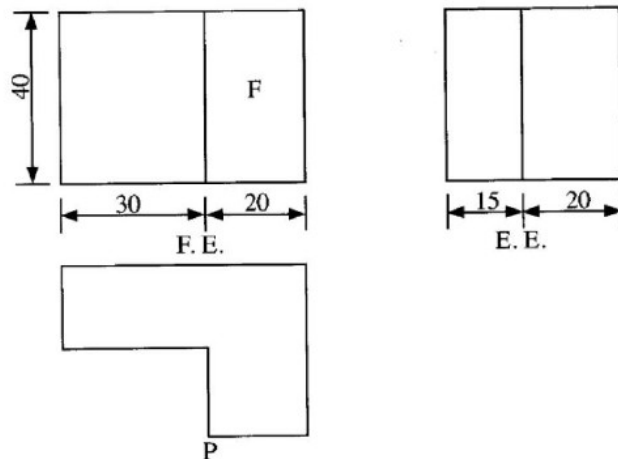

Figure 2
- 10 **Figure 2** shows orthographic views of a block drawn in 1st angle projection.